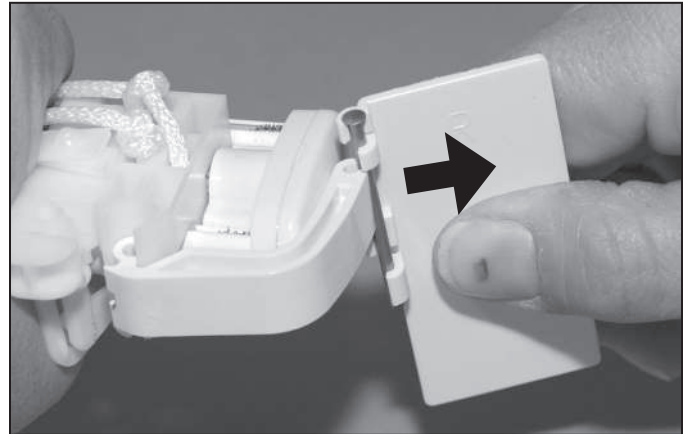

Figure 1
1. Remove the swivel plate and rivet from the swivel arm (see Figure 1).